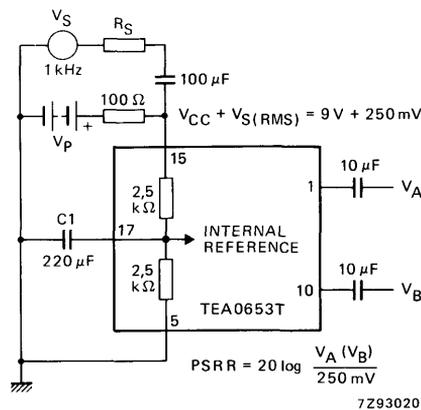

Fig. 3 Test circuit for PSSR for TEA0653T.
1. Voltage gain is  $20 \log \frac{\text{voltage at pin 1 (10)}}{\text{voltage at pin 2 (9)}}$
3. Test circuit Fig. 3, reference level at channel A and channel B test point.